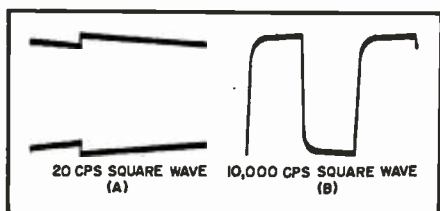

Fig. 3. Transient response of amplifier. (A) at 20 cps and (B) at 10,000 cps. See text.
Transient response to the amplifier is shown in the oscillograms of Fig. 3; (A) is taken with a 20 cps square wave and shows approximately 12° of phase shift at this frequency, while (B) shows the performance with a 10,000 cps square wave with slight rounding of the leading corners, indicating the drop in response above 100,000 cps. Response of the amplifier in this higher frequency region is purposely attenuated to prevent r.f. signals from being passed, which might detrimentally affect the performance of the system. The gain of the amplifier is down 30 db at 1 megacycle.